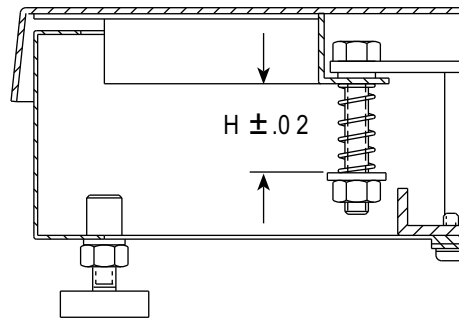

Figure 3-3. Spring Height
11. Using an accurate caliper, check compressed spring length on four overload springs (Figure 3-3 on page 12). If necessary, adjust spring length to specifications shown in Table 3-3 on page 12. Replace top cover and re-level scale if necessary.